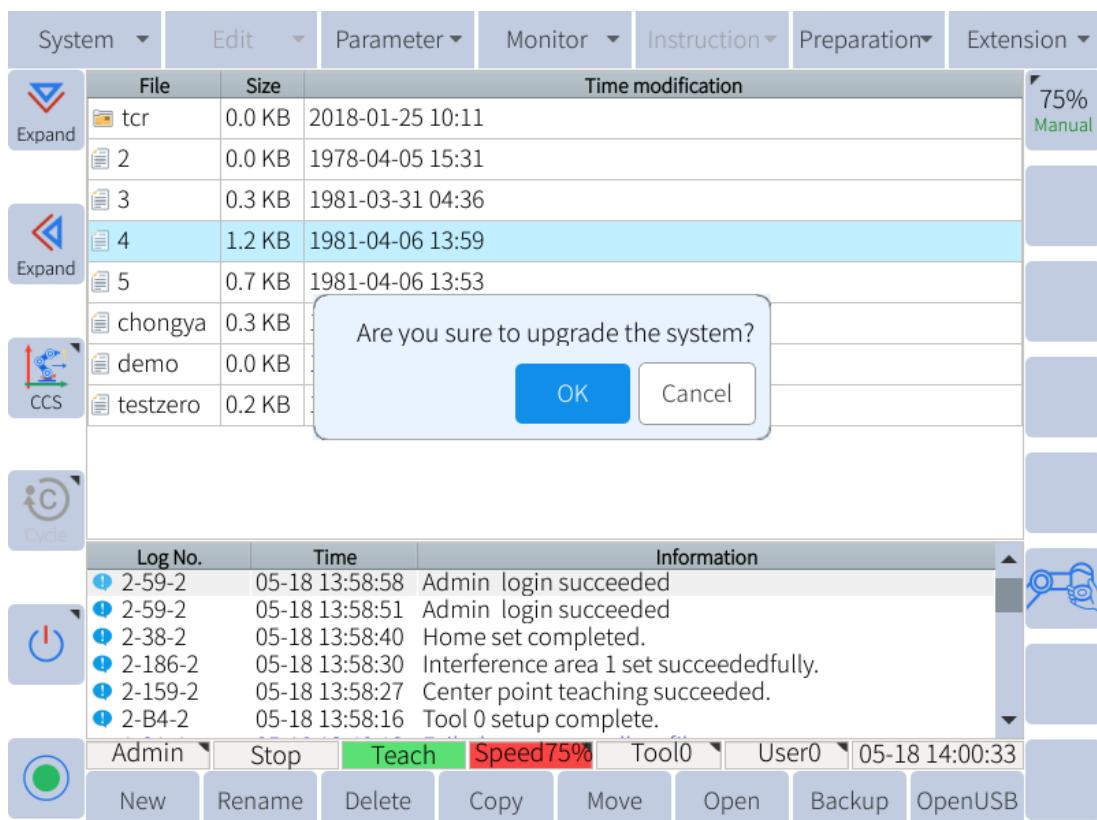

Figure 13-1 : System Upgrade
4. Go to **System -> System Upgrade** then press “OK” button and wait several minutes. The system will check the firmware and be upgraded automatically. It will restart the system after successful upgrade, as shown in **Figure 13-1**.